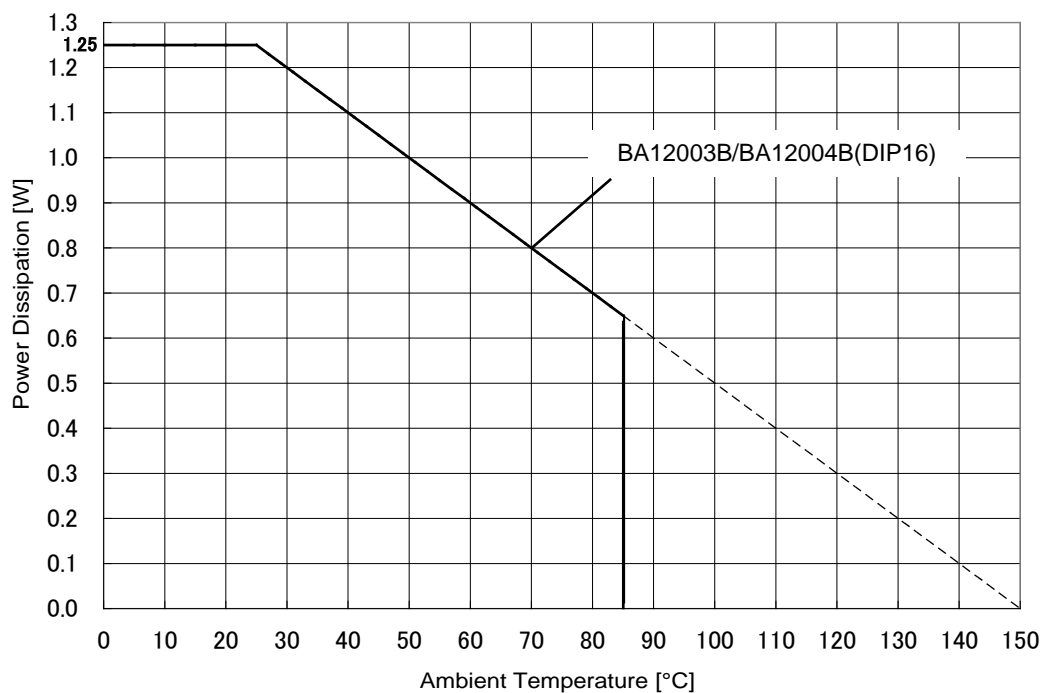
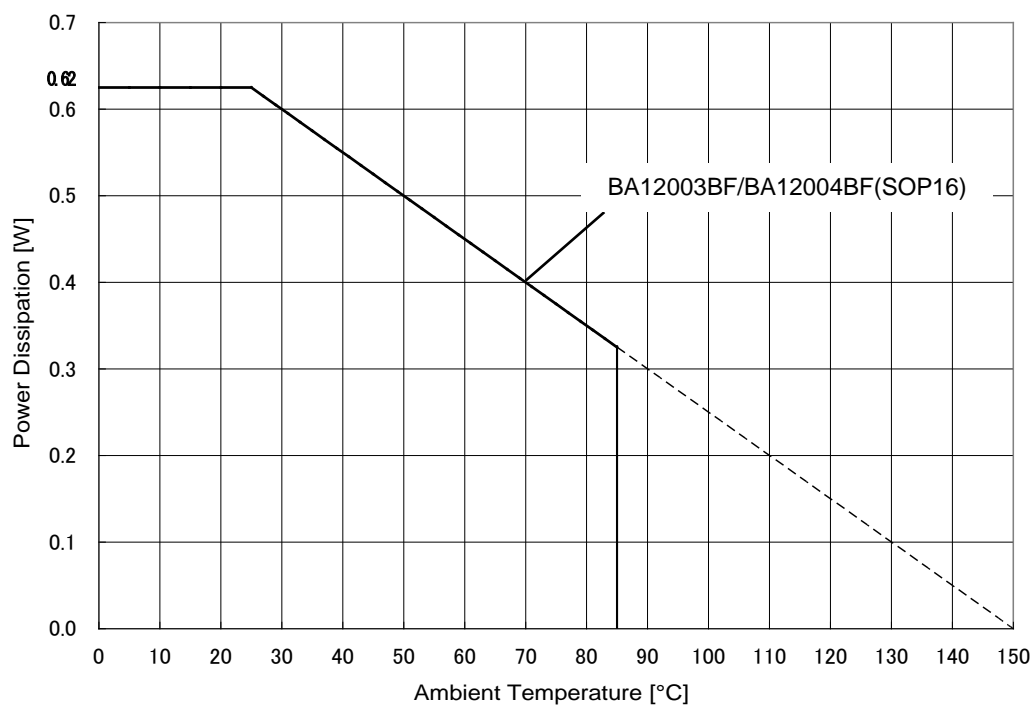

Figure 16. Derating curve
Figure 17. Derating curve
**Figure 16** show a derating curve for an example of BA12003B/BA12004B and **Figure 17** show a derating curve for an example of BA12003BF/BA12004BF.